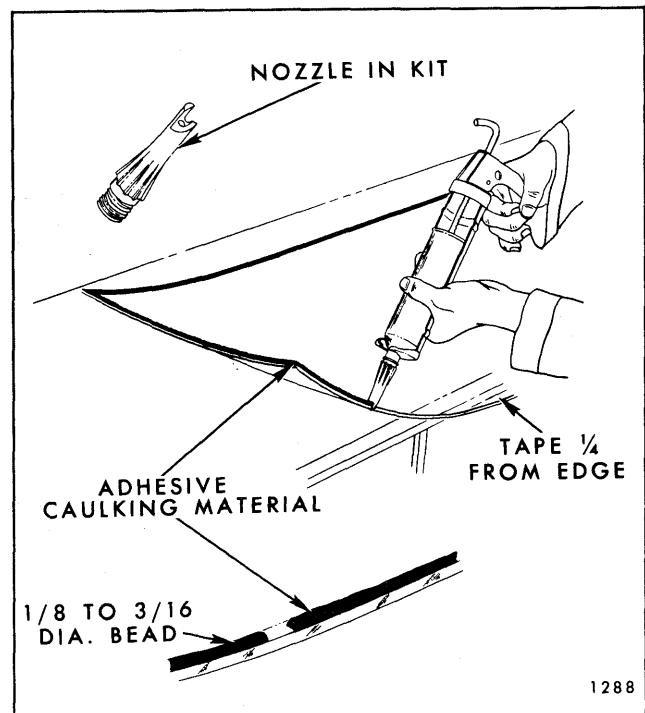

Fig. 1-3—Adhesive Glass Installation Short Method
- If short method installation is required, the nozzle furnished with the kit, is pre-cut to dispense the proper size bead of caulking material (Fig. 1-3).